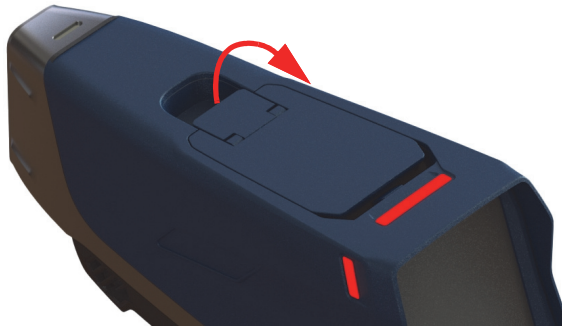

Figure 3-1 Cover unlock
1. Lift the door tab, and pop up the cover (see Figure 3-1 on page 58).